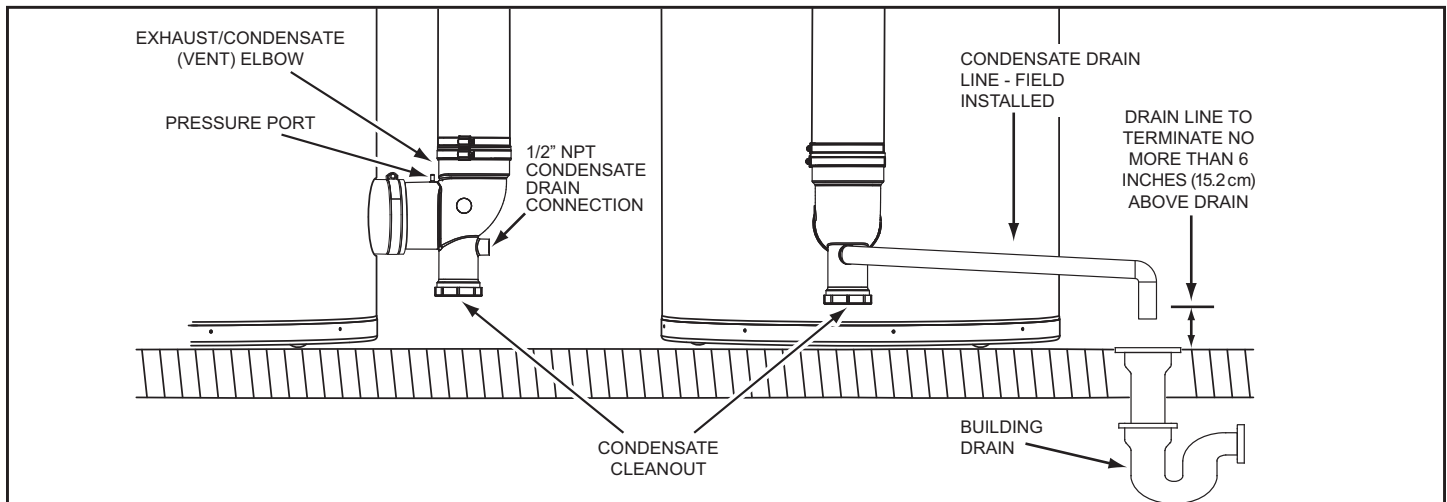

Figure 53. Condensate Drain Installation
2. Install a 1/2 inch PVC condensate drain line between condensate drain connection on the Exhaust/Condensate Elbow and a suitable building drain. The condensate line must slope to an open drain. See *Figure 53*.
3. Terminate the condensate drain piping with an elbow above the drain. Ensure that any discharge will exit the condensate drain line no more than 6 inches (15.2 cm) above a suitable building drain, or external to the building. See *Figure 53*.
4. Ensure the condensate drain line is not elevated above the condensate drain connection on the Exhaust/Condensate Elbow. See *Figure 53*.
Ensure all gas pipe is clean on the inside before installation. To trap any dirt or foreign material in the gas supply line a sediment trap must be installed as shown in *Figure 53*. The sediment trap must be readily accessible and not subject to freezing conditions. Install in accordance with the recommendations of the local gas utility company.
6. Install a sediment trap as shown in *Figure 53* (page 38).
7. Install a Main Gas Shutoff valve in the supply gas line as shown in *Figure 53* (page 38).
1. For test pressures exceeding 1/2 psi (3.45 kPa), disconnect the water heater and its Main Gas Shutoff Valve from the gas supply piping system during testing. See *Figure 53* (page 38). The gas supply line must be capped when disconnected from the water heater.